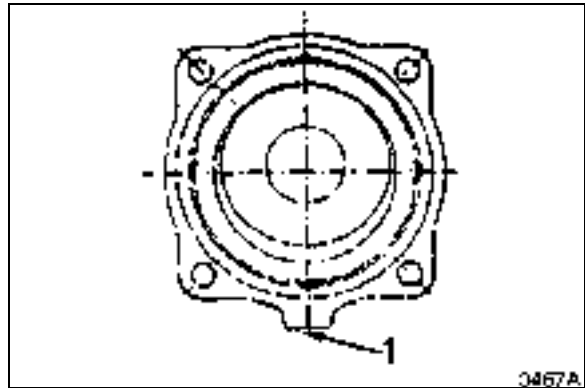

Figure 39 \
12. Turn motor so that front cover side (304) is down. Put separator plates (743) and friction plates (742) back in same order in which they were removed. There are three separator plates (743) and two friction plates (742), which should be positioned as shown in drawing below, with clearance towards side of casing with brake valve (1, Figure 39).